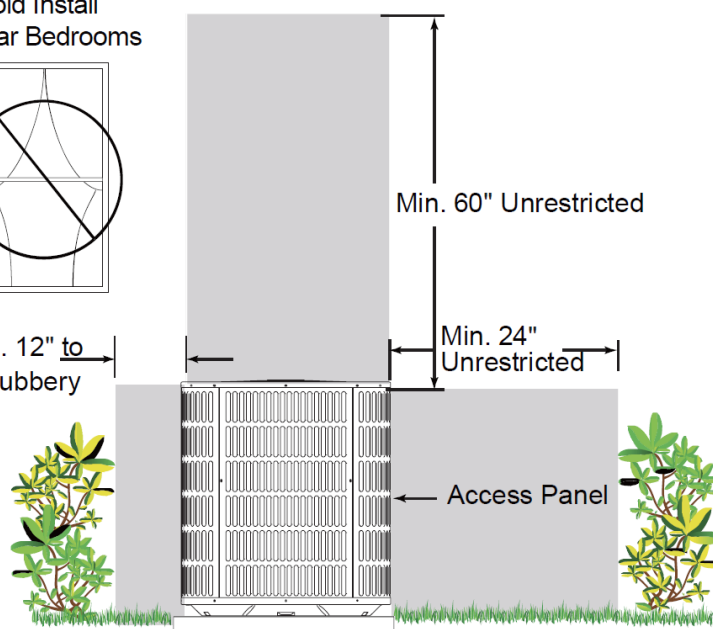

Figure 2.2
- Position the outdoor unit a minimum of 12" from any wall or surrounding shrubbery to ensure adequate airflow. See Figures 2.2 and 2.3.